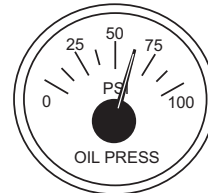

Figure 53. Oil Pressure Gauge
9. The **engine oil pressure gauge** (Figure 53) will indicate the oil pressure of the engine. Under normal operating conditions the oil pressure should be between 42.1 and 85.6 psi (290–590 kPa). When starting the generator the oil pressure may read a little higher, but after the engine warms up the oil pressure should return to the correct pressure range.